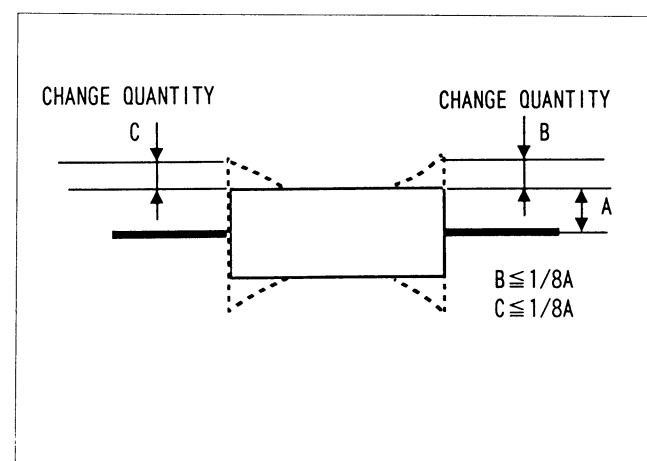

Fig. 1-13
- 4) In this case, confirm change quantity of RF waveform envelope to be as shown in Fig. 1-13.